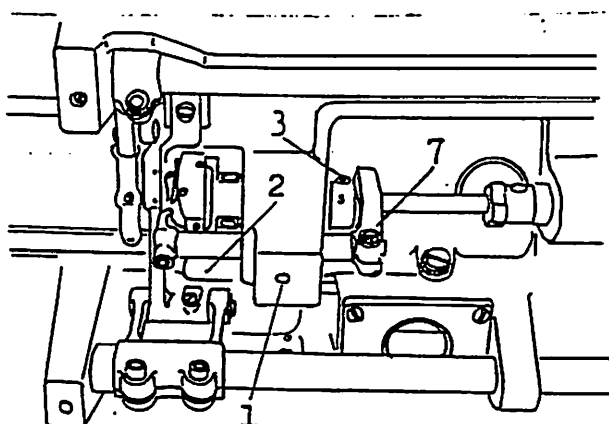
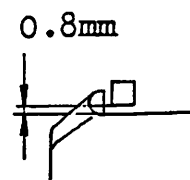

Fig 24
Fig 26
1. Loosen the screw(1, Fig 24).
2. Adjust the clearance between projection of hook and the opener by means of movement of thread releasing shaft bushing(2, Fig 24) to the right or to the left as may be required. The standard clearance between the two parts is 0.8mm as shown Fig 26
3. Tighten the screw(1, Fig 24) securely.
Place the one of screw(3, Fig 24) which is indicated by "S" on V ditch of the hook shaft.